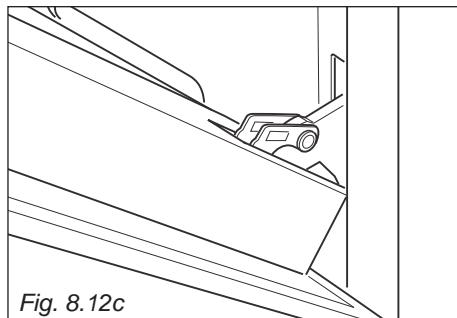

Fig. 8.12c
1. Make sure the door is locked open (see fig. 8.12c).